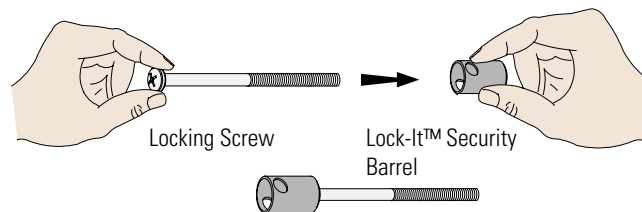

Figure 31. Placing the Locking Screw Through the Security Barrel
2. Place the locking screw into and through the security barrel (Figure 31).